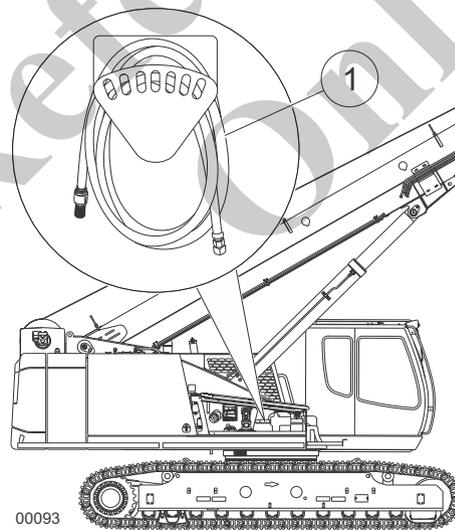

Fig. 94 Location of the fueling hose
6	Remove the fueling hose (1) in Fig. 94 from the bracket.